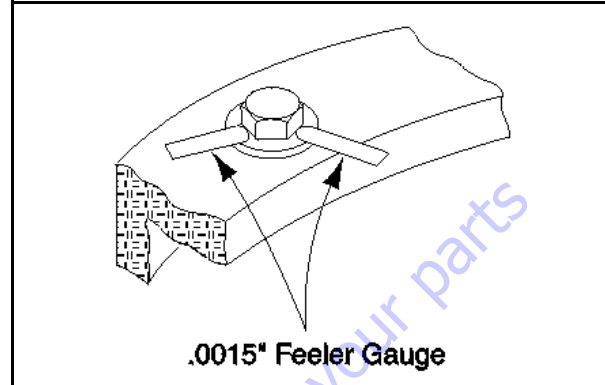

Figure 3-26. Swing Bearing Feeler Gauge Check
- b. At the positions indicated on Figure 3-26., Swing Bearing Feeler Gauge Check try and insert the 0.0015" feeler gauge between the bolt head and hardened washer at the arrow indicated position.
- d. At the position indicated on Figure 3-26., Swing Bearing Feeler Gauge Check try and insert the 0.0015" feeler gauge between the bolt head and hardened washer at the arrow indicated position.